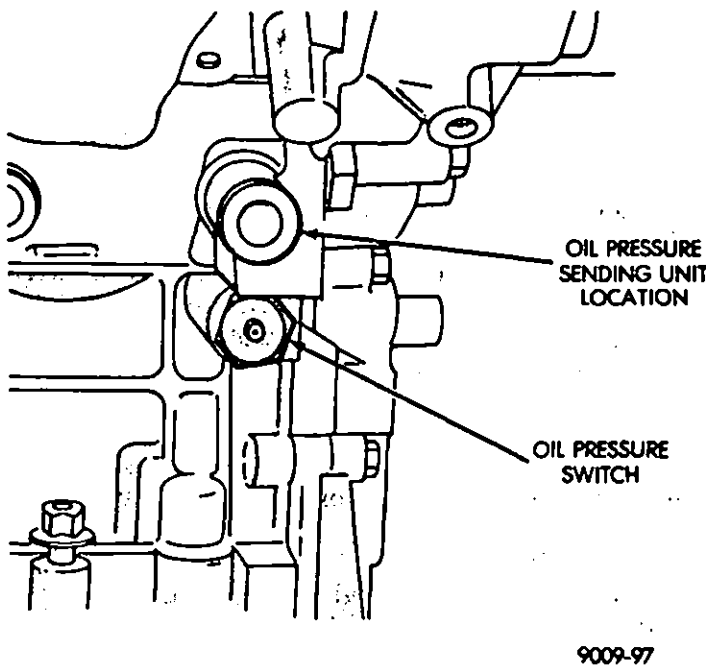

Fig. 15—Right Side Oil Galley Oil Pressure Sender Unit and Switch
(4) Remove oil galley plug on the right-hand side of the block (Fig. 15).
(5) Remove oil pressure sender (Fig. 15).
(6) Spray compressed air into all oil galley passages to ensure they are clear of blockage. Refer to the General Information Section—Lubrication System.
(7) Use a gasket removal compound to soften the old gasket material. Use a wooden or plastic scraper to remove the old gasket.
(8) Use fine grade 3M® Scotch Brite or equivalent to remove any small amounts of gasket material.
(9) Clean the oil passages in the crankshaft with a brush.